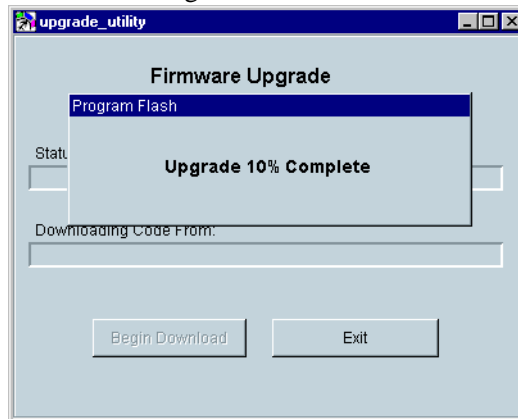

Figure 6-4. Progress Window
- After a series of windows displaying the status of the operation, the **Program Flash** window showing the progress of the upgrade is displayed as shown in Figure 6-4.